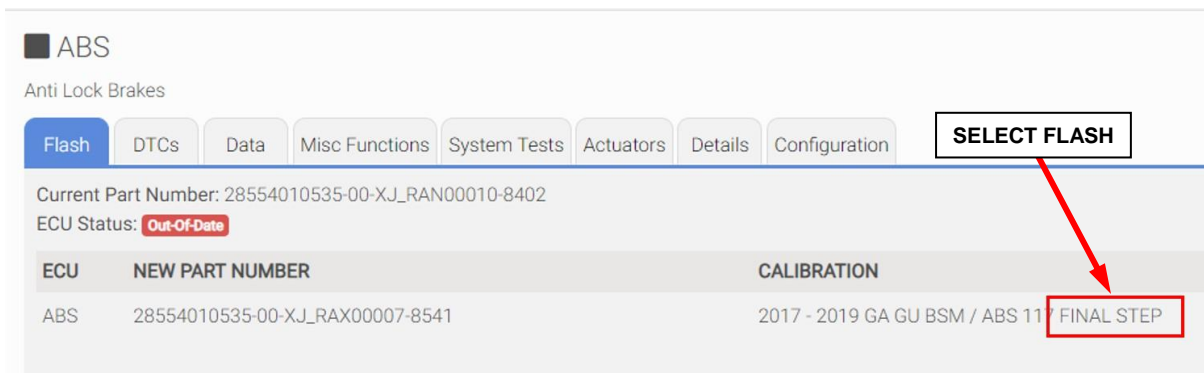

Figure 15 – Flash ABS / BSM “FINAL STEP”
11. From the ABS flash tab, select the ABS flash “FINAL STEP” and proceed with the reprogramming procedure (Figure 15).